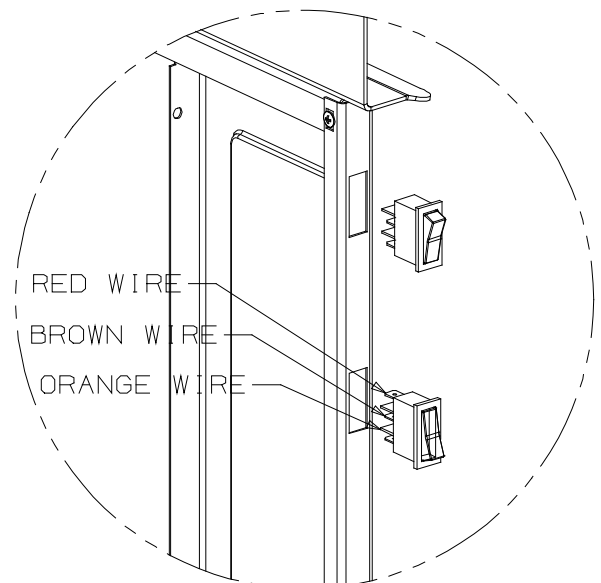

Fig 3
- 5) Take the 2 switches supplied with the fire and push them into the rectangular switch holes in the left-hand side of the fascia. The 3 terminal switch must be in the bottom hole and the 2 terminal switch must be in the top hole. Refer Fig 3.